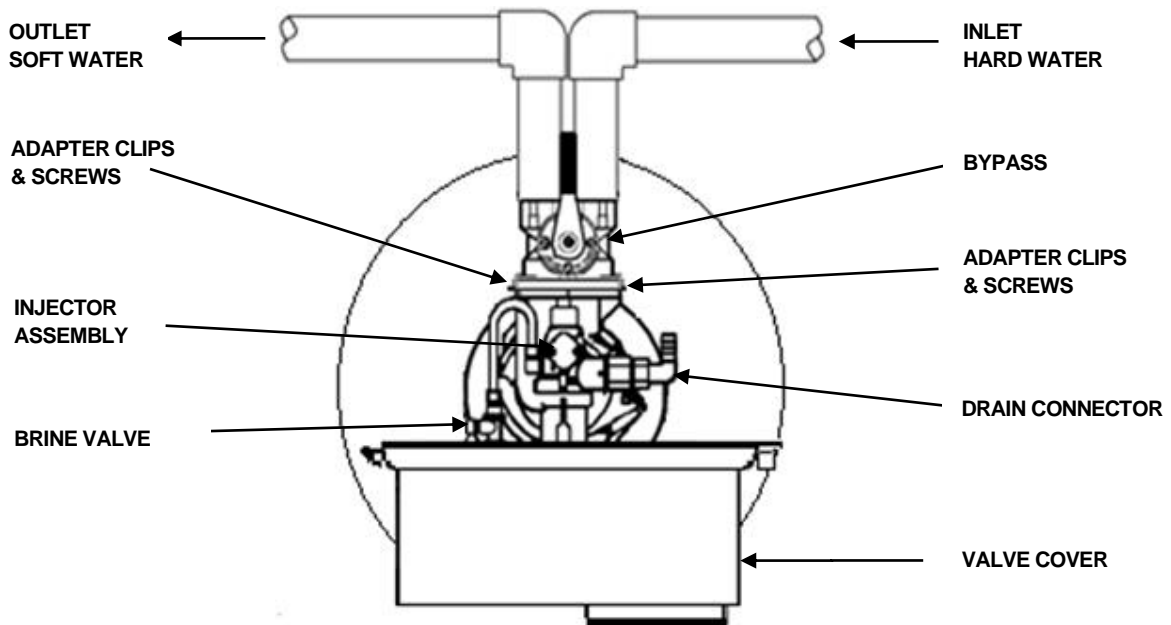

FIGURE 2: Top View of FEST Series Digital Time Clock Control Valve with Bypass
STEP 2: Use clips and screws provided to connect the bypass valve to the inlet/outlet of the control valve. See figure 2 below.